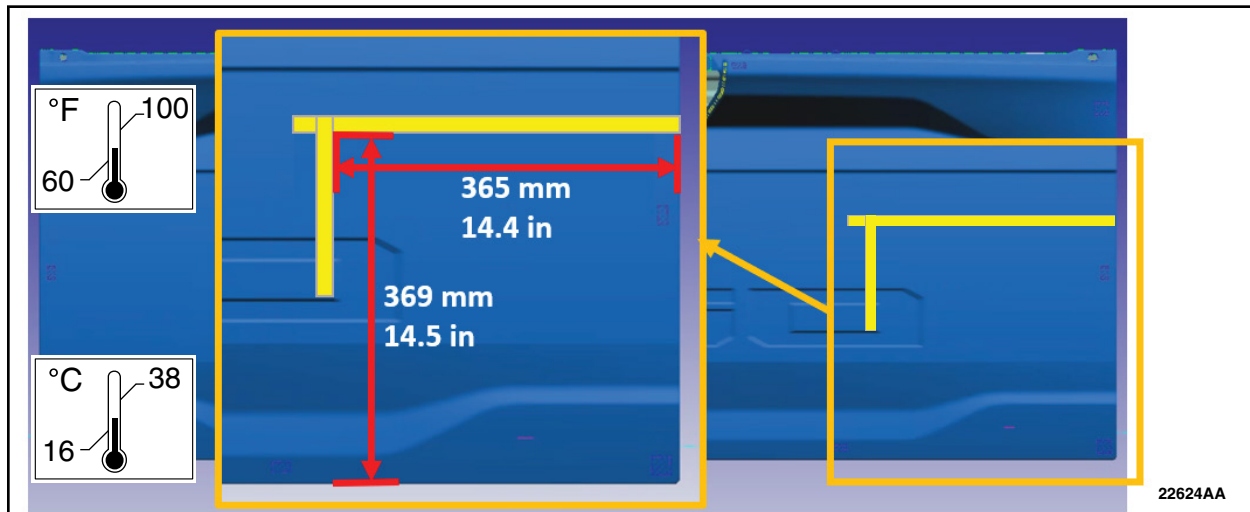

FIGURE 16
55. Measure and apply locating masking tape to the tailgate outer panel. See Figure 16.